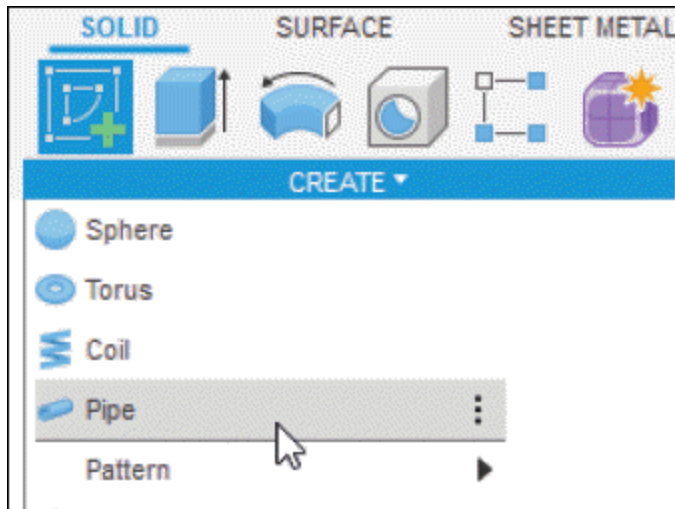
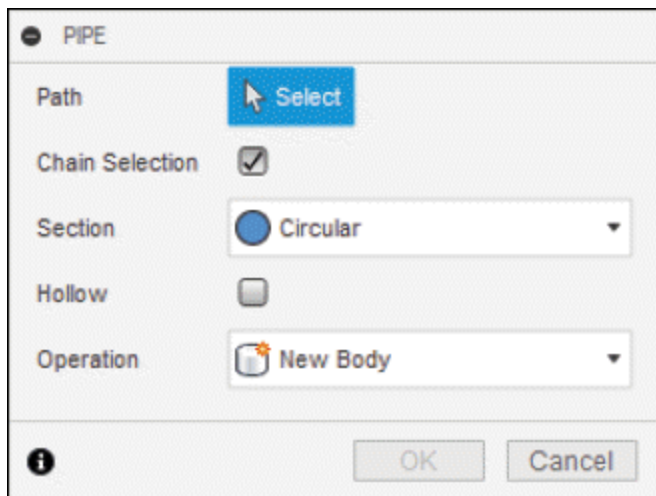

Figure-81. Pipe tool
Figure-82. PIPE dialog box
- Click on **Pipe** tool of **CREATE** drop-down from **Toolbar**; refer to Figure-81. The **PIPE** dialog box will be displayed and you will be asked to select a path for pipe; refer to Figure-82.